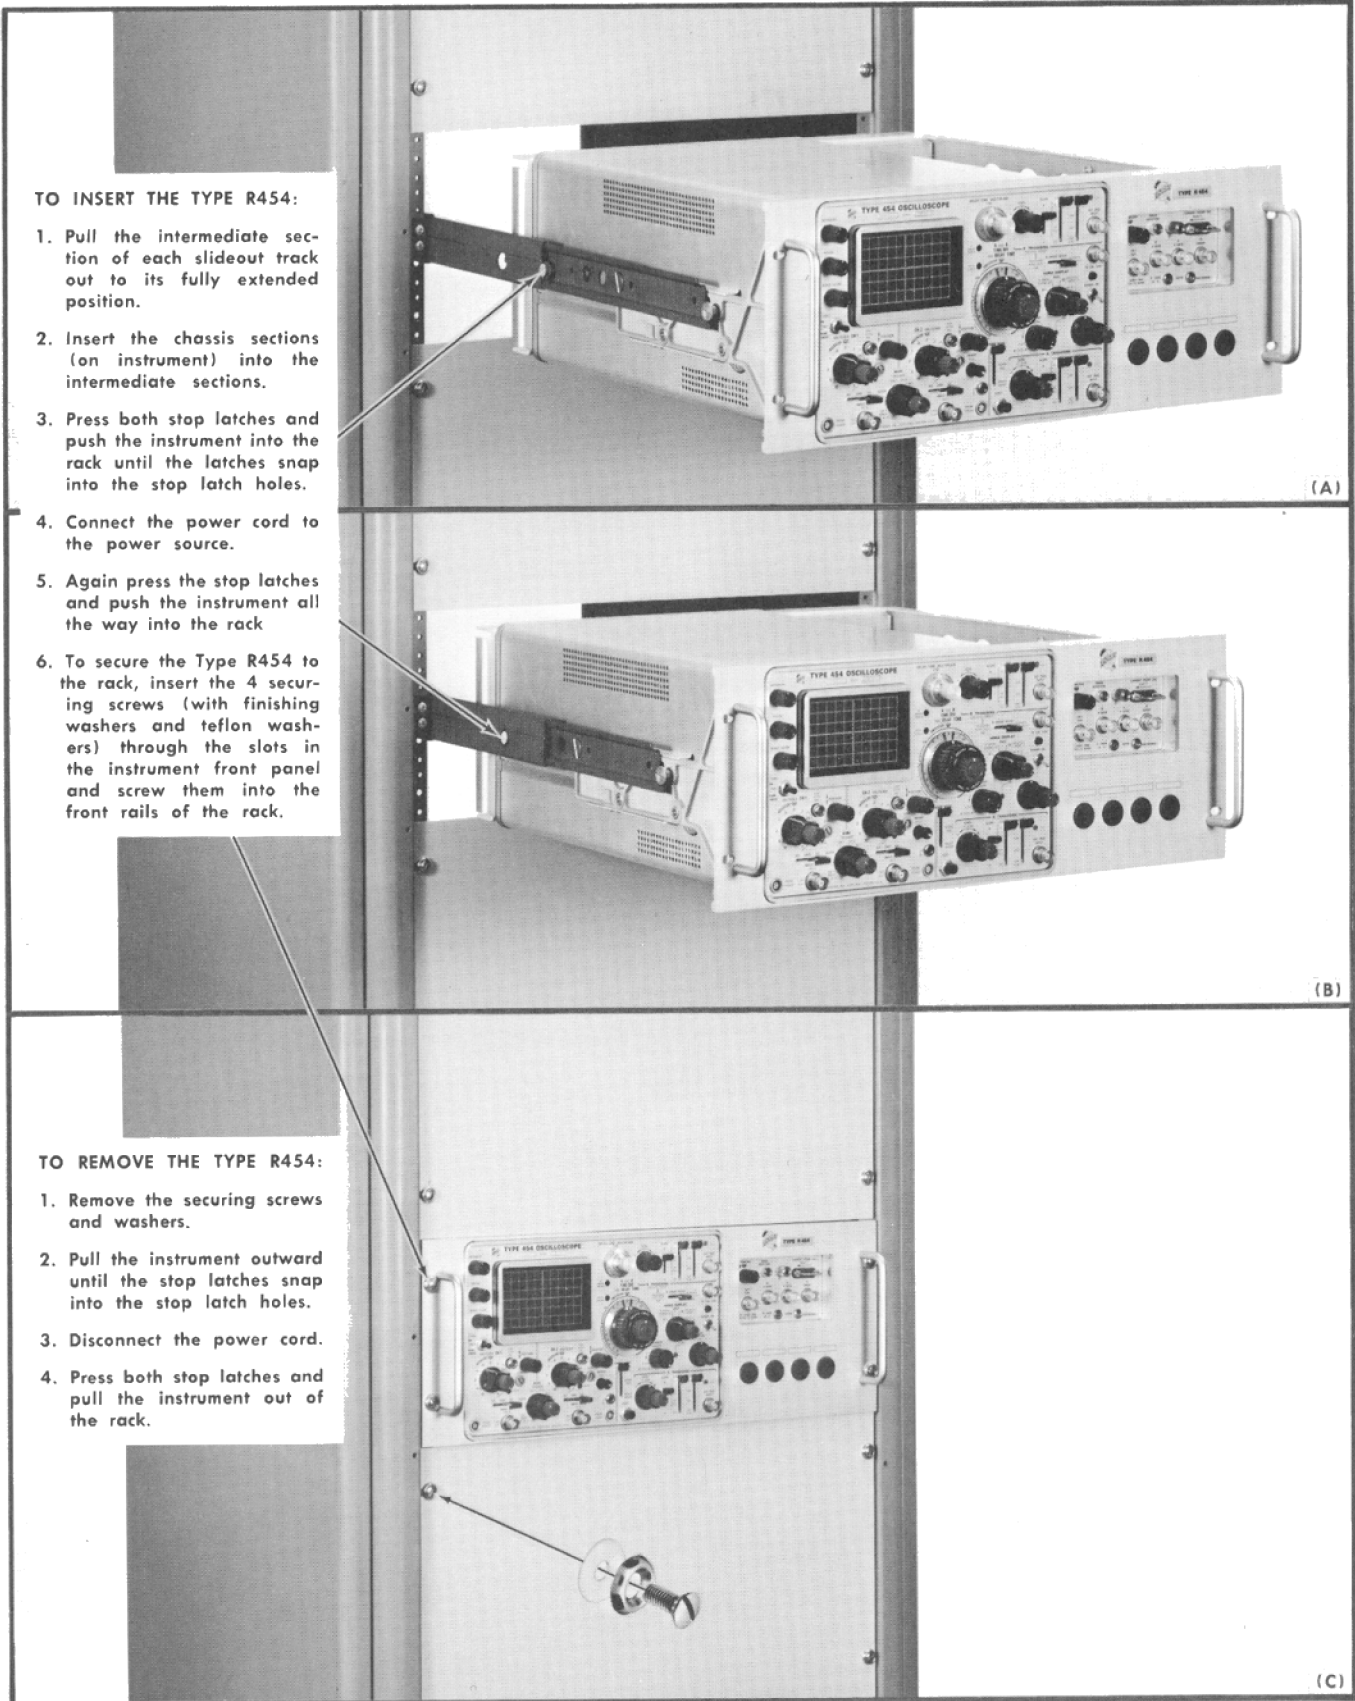

Fig. 10-9. Procedure for inserting or removing the instrument after the slideout tracks have been installed.
6. Refer to Fig. 10-9 to insert the instrument into the rack. Do not connect the power cord or install the securing screws until all adjustments have been made.
After initial installation and adjustment of the slide-out tracks, the Type R454 can be removed or installed by following the instructions given in Fig. 10-9. No further adjustments are required under normal conditions.